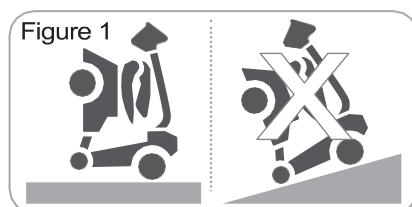

Figure 1
- The brake does not apply when the scooter is in folded and standing position. Do not place the standing folded scooter on a slope to avoid roll-away and risk of injury (Figure 1).